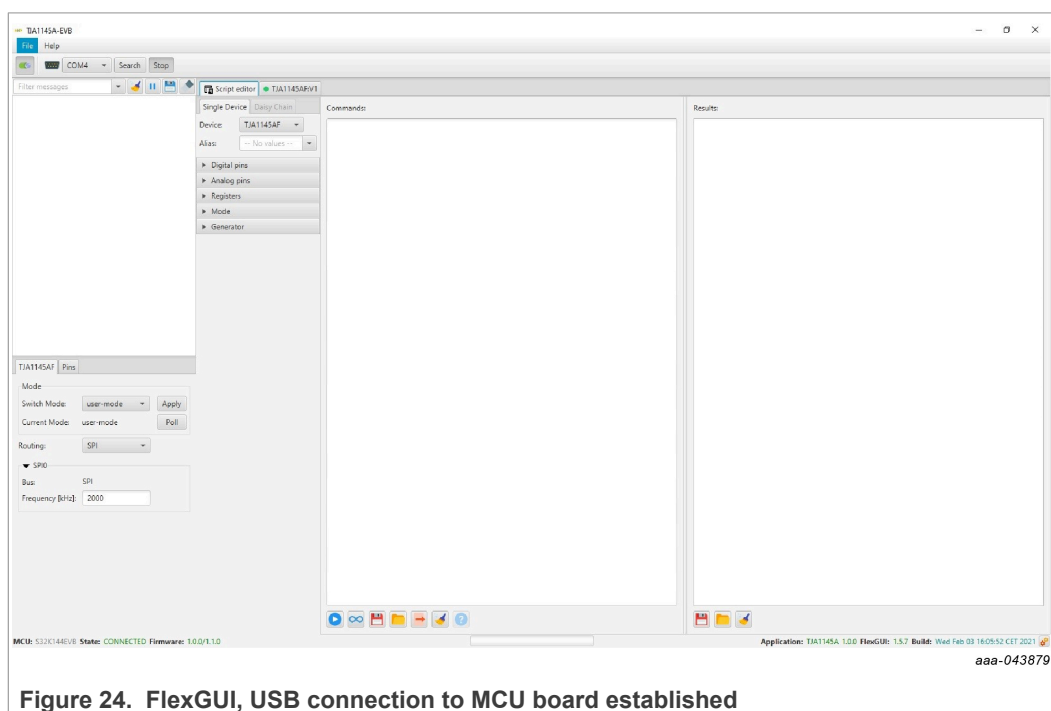

Figure 24. FlexGUI, USB connection to MCU board established
- Click the **Search** button in the upper left corner of the FlexGUI window (Figure 24) to detect all available serial connections.
The text in the lower left corner of the window should turn from red to green to indicate that the session has started successfully (Figure 24). The FlexGUI functionality can now be accessed, as described in the following sections.